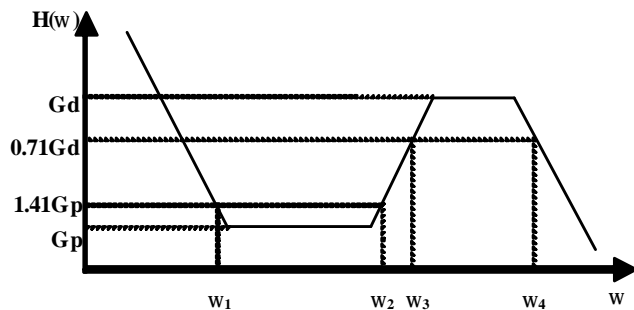

Figure 4 Transfer Function of the Compensation Network
The transfer function of the compensation network, defined as $H(\omega) = VDR(\omega)/TMPO(\omega)$, is shown in figure 4.
- $C_d * R_i$ determines the corner frequency, $\omega_2 = 1/(C_d * R_i)$, where the differential component starts picking up (see Figure 4), as the frequency goes up.